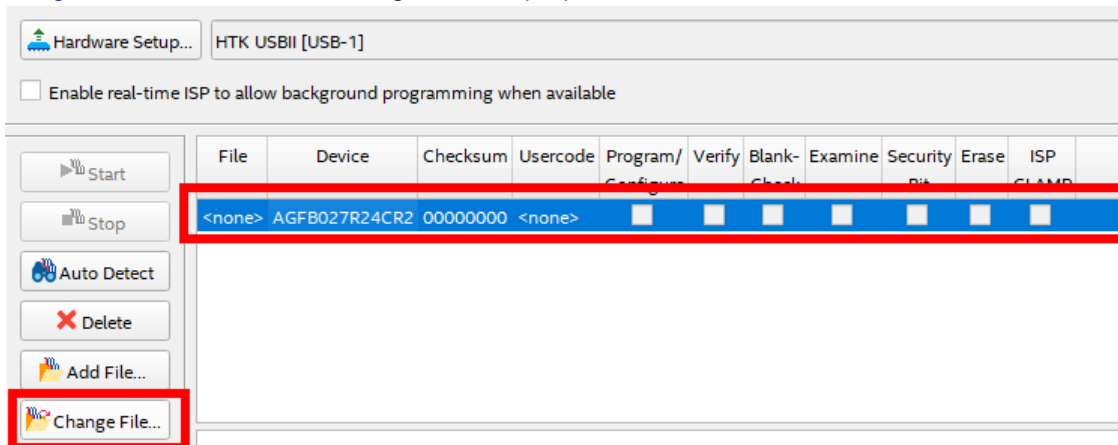

Figure 4-10. File Change
16. Select the only row under "File" and then click on "Change File". Select the FPGA image called *ag_esom_top_afe77xx_jesd204c_4t4r2f_fpga_first_hps_auto.sof* that is provided in the directory *AG_eSOM_AFE77XX_RF_INTF_DEMO_Release_v3_3_2023-04-25\snapshots\hardware\fpga\agfb027_r24c_asyXX\ag_esom_top_afe77xx_jesd204c_4t4r2f_fpga_first_20230421_012455*, where "XX" should match the "ASY-XX-00047" label on the eSOM7 board. There is an extra copy of these files in a compressed .tar.gz folder. Figure 4-10 shows how to navigate to the proper functions.